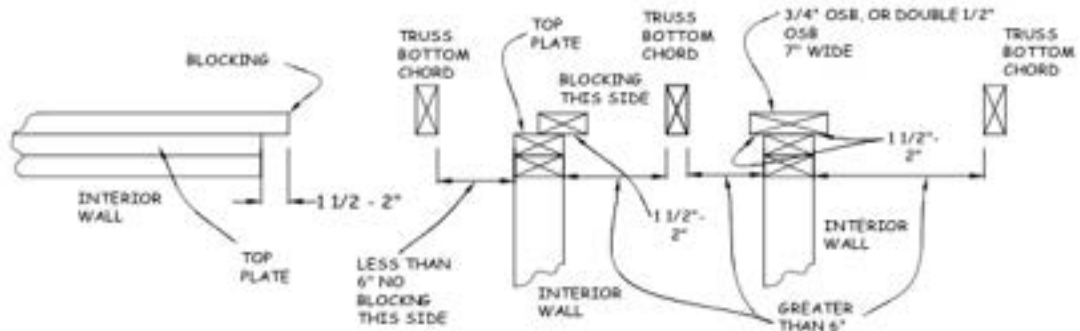

Figure 10-5. Blocking for Ceiling Rock.
2. Inspect the tops of all walls for areas where blocking may be needed for ceiling rock (see Figure 10-5). For interior walls that are greater than 6" from a truss, make sure that blocking extends at least 1½"-2" beyond both ends and sides of any interior wall top plates. Blocking should be continuous at the top of each wall where required.